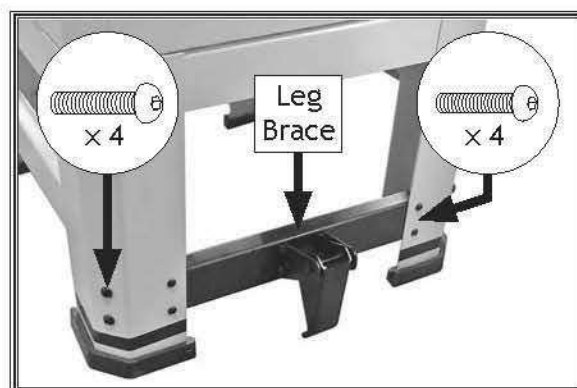

Figure 14. Leg brace installed.
3. Install leg brace (see **Figure 14**) with pre-installed (4) M8-1.25 × 16 button head cap screws and (4) M6-1 × 12 button head cap screws.